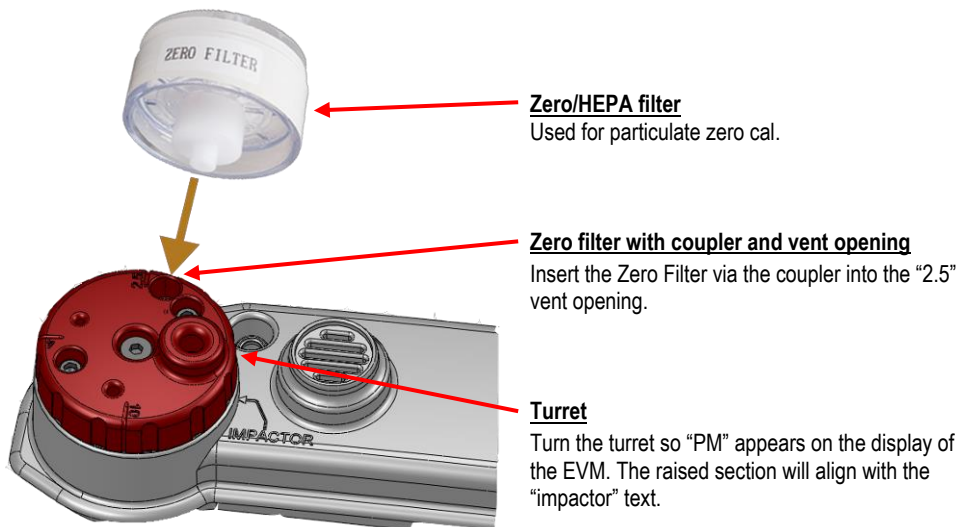

Figure 4-6: Particulate zero cal with HEPA filter
2. Adjust the turret/impactor to **PM** (refer to "Turret" in Figure 4-6).